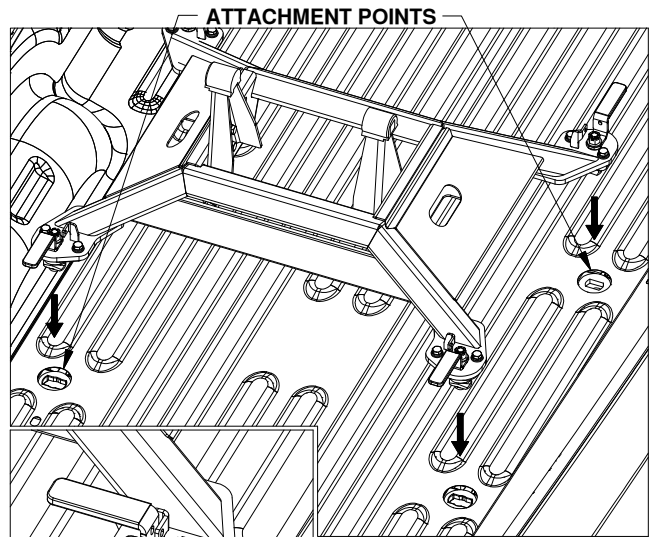

Figure C1:
1. The Companion base will mount to four attachment points in the truck bed. Remove any debris and/or obstructions from the truck bed, this includes any plastic caps which may be over the attachment points. Remove the latch pins from each side of the base and rotate the handles out, see Figure C1. Place the base over the attachment points and carefully lower it until the latch cams pass through the floor and the base rests flat against the top of the attachment points.